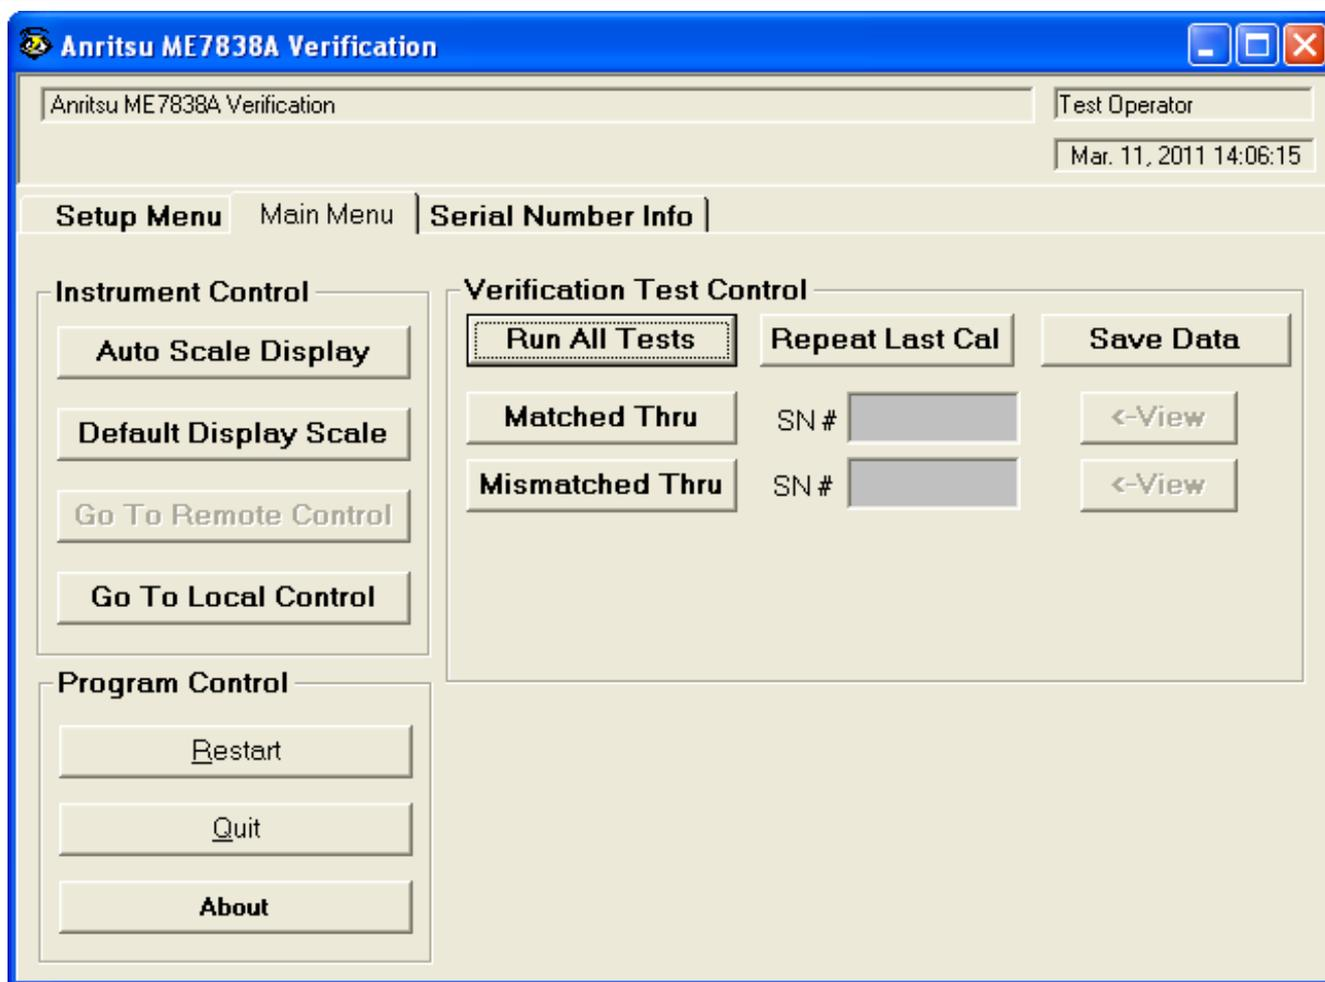

Figure 2-36. ME7838A Application Interface – Main Menu Tab
- The Main Menu tab display is described in the section immediately following and is shown in Figure 2-36, “ME7838A Application Interface – Main Menu Tab” on page 2-24
This command button runs both the Matched Thru and Mismatched Thru tests. Program execution starts with Section 2-11 “Matched Thru Tests” on page 2-29 and then continues with Section 2-12 “Mismatched Thru Tests” on page 2-31. When both tests are completed, program execution returns to the Main Menu tab shown in Figure 2-36, “ME7838A Application Interface – Main Menu Tab” on page 2-24.
This command button re-calibrates the VNA according to the CURRENT calibration. This provides a way to recalibrate the VNA without having to reset the program parameters in case the original calibration was flawed for some reason. When the calibration sequence is complete, program execution continues to the Main Menu tab shown previously in Figure 2-36, “ME7838A Application Interface – Main Menu Tab” on page 2-24.
This command button only runs the Mismatched Thru tests. If selected, program execution continues in Section 2-12 “Mismatched Thru Tests” on page 2-31. When the tests are completed, the program returns to the Main Menu tab shown in Figure 2-36, “ME7838A Application Interface – Main Menu Tab” on page 2-24.
9. If only the Matched Thru button was selected, the program returns to the “Application Interface – Main Menu Tab” on page 2-24. The dialog box is shown in Figure 2-36, “ME7838A Application Interface – Main Menu Tab” on page 2-24.
The dialog box is shown in Figure 2-36, “ME7838A Application Interface – Main Menu Tab” on page 2-24.